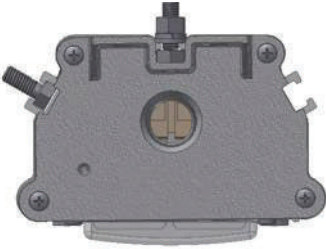

Figure 1
- A. Channels are incorporated in the housing for 5/16" or M8 hex bolts or nuts. (See Figure 1)